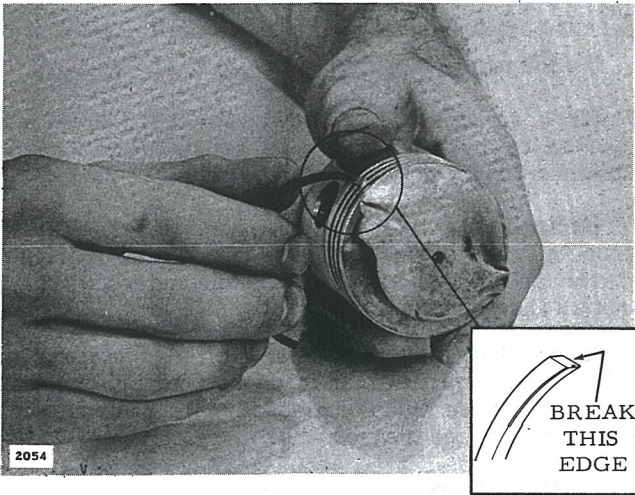
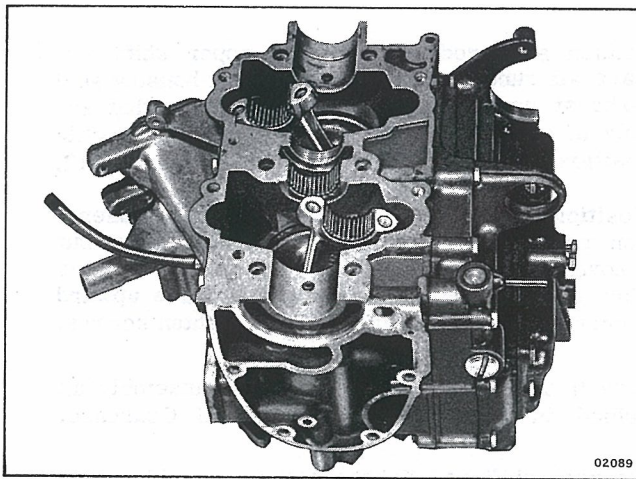

Figure 5-22. Cleaning Carbon from Ring Grooves
Figure 5-29. Bearings in Connecting Rods
damaging the grooves. A tool for cleaning the ring grooves can be made from a broken ring with a sharpened edge. Care must be taken not to damage the lower ring lands. See Figure 5-22. Check piston for size and roundness, using a micrometer. See Figure 5-29. Correct sizes are given in Section 2.
c. Apply a coat of OMC Needle Bearing Grease (Part Number 378642) to connecting rod liners, and place 14 needles in each connecting rod and main bearing liner. See Figure 5-29.